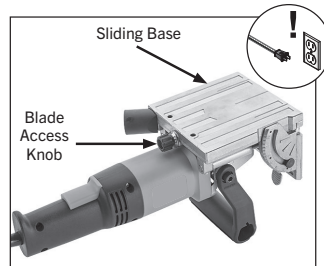

Fig. 20. Loosening blade access knob.
4. Loosen blade access knob (see Figure 20) until the sliding base lid can be raised.